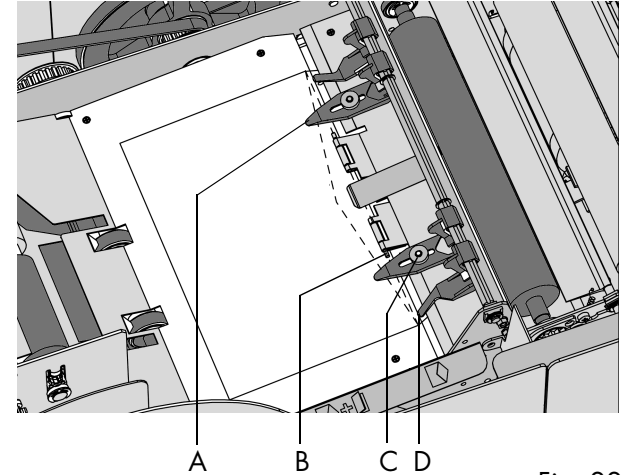

Fig. 22
Press key 1 in the "test run" menu to bring one envelope onto the insert table. Pull the hand grip of the upper unit upward and pull the upper unit into the vertical position. The flap folding line must be positioned under the green indicator B (fig. 22). If
To adjust the insert fingers A (fig. 22) (2 in total) loosen the knurled knob C (fig. 22) on top of each finger.